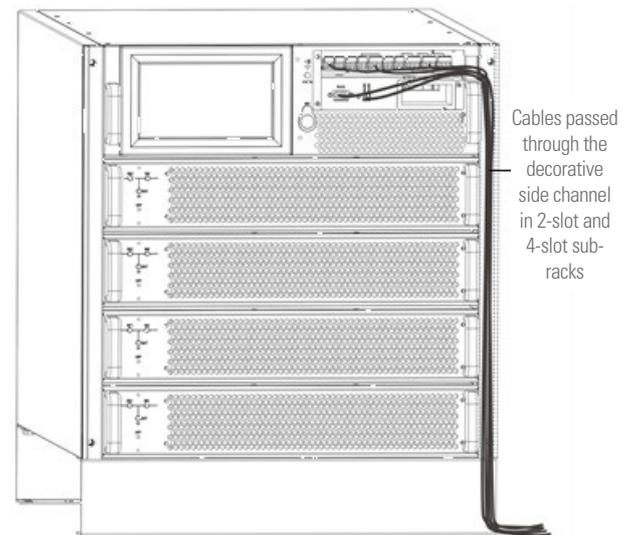

Fig. 36. Routing of the control cables through the inside of the front trim in 2 and 4-slot models.
3. Regardless of whether you are operating with a single sub-rack or with several sub-racks in parallel in the particular case of 6-slot, points 1 and 2 are applicable on all systems. For parallel systems, connect the same J4 signal from all of them and in parallel to the same EPO push button, see Fig 36.